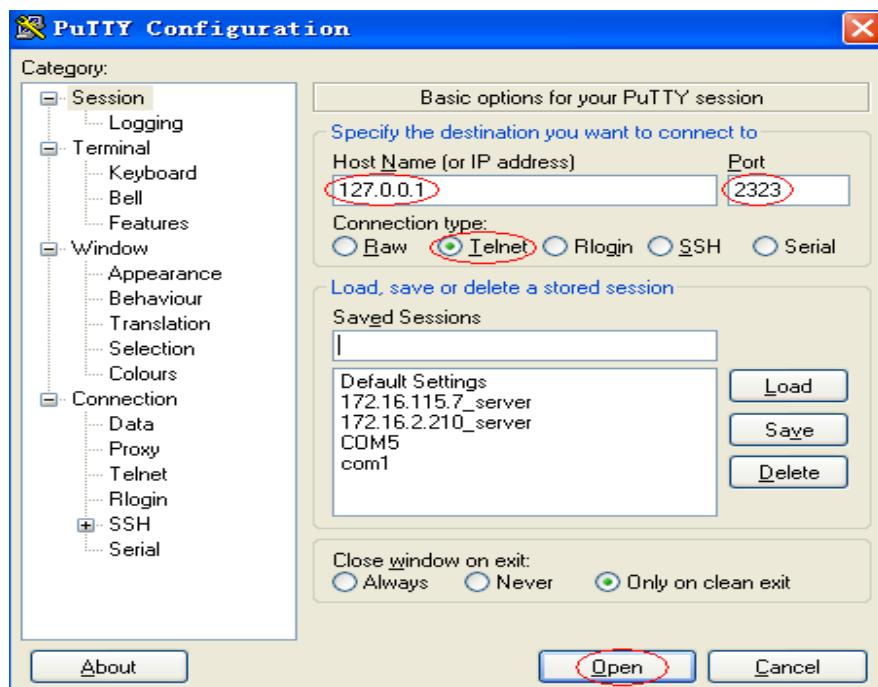
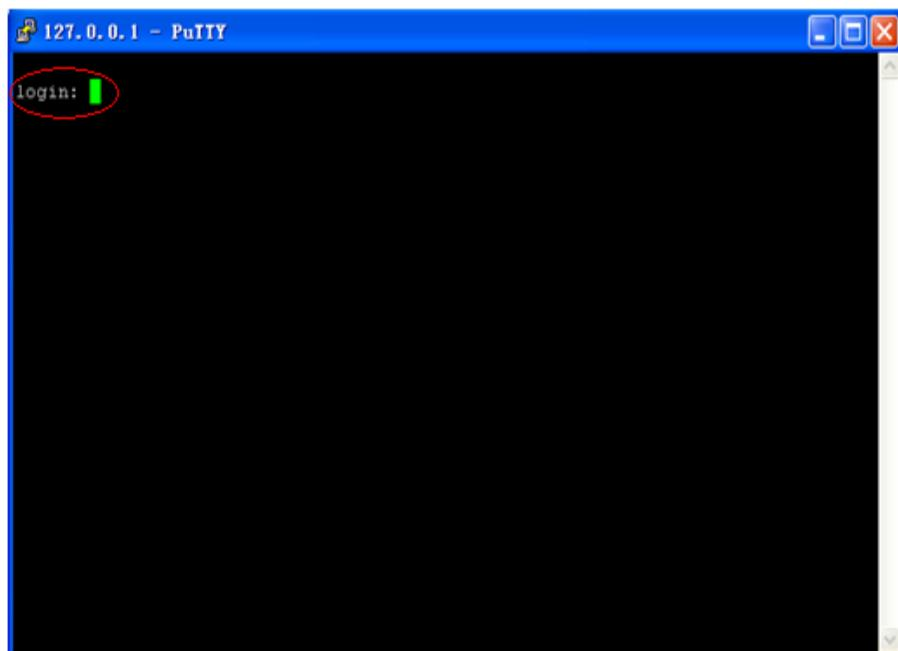

Figure 3-10 PuTTY configuration
Figure 3-11 PuTTY login
3. Open the Telnet login tool on PC, such as putty, the setting interface is shown in figure 3-10, set “Host Name” to “127.0.0.1” and Port to “2323”, select “Telnet” as the connection type, then click on “Open”, an interface will appear , then input “MAINAPP” to log in (figure 3-11).